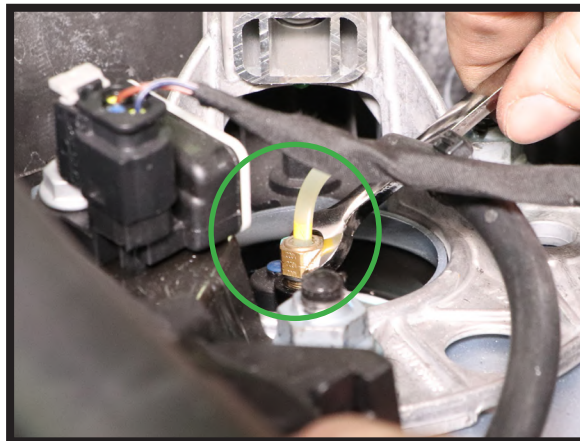

FIGURE 4
7. DISCONNECT THE AIR LINE FROM THE STRUT ASSEMBLY. (FIGURE 4)